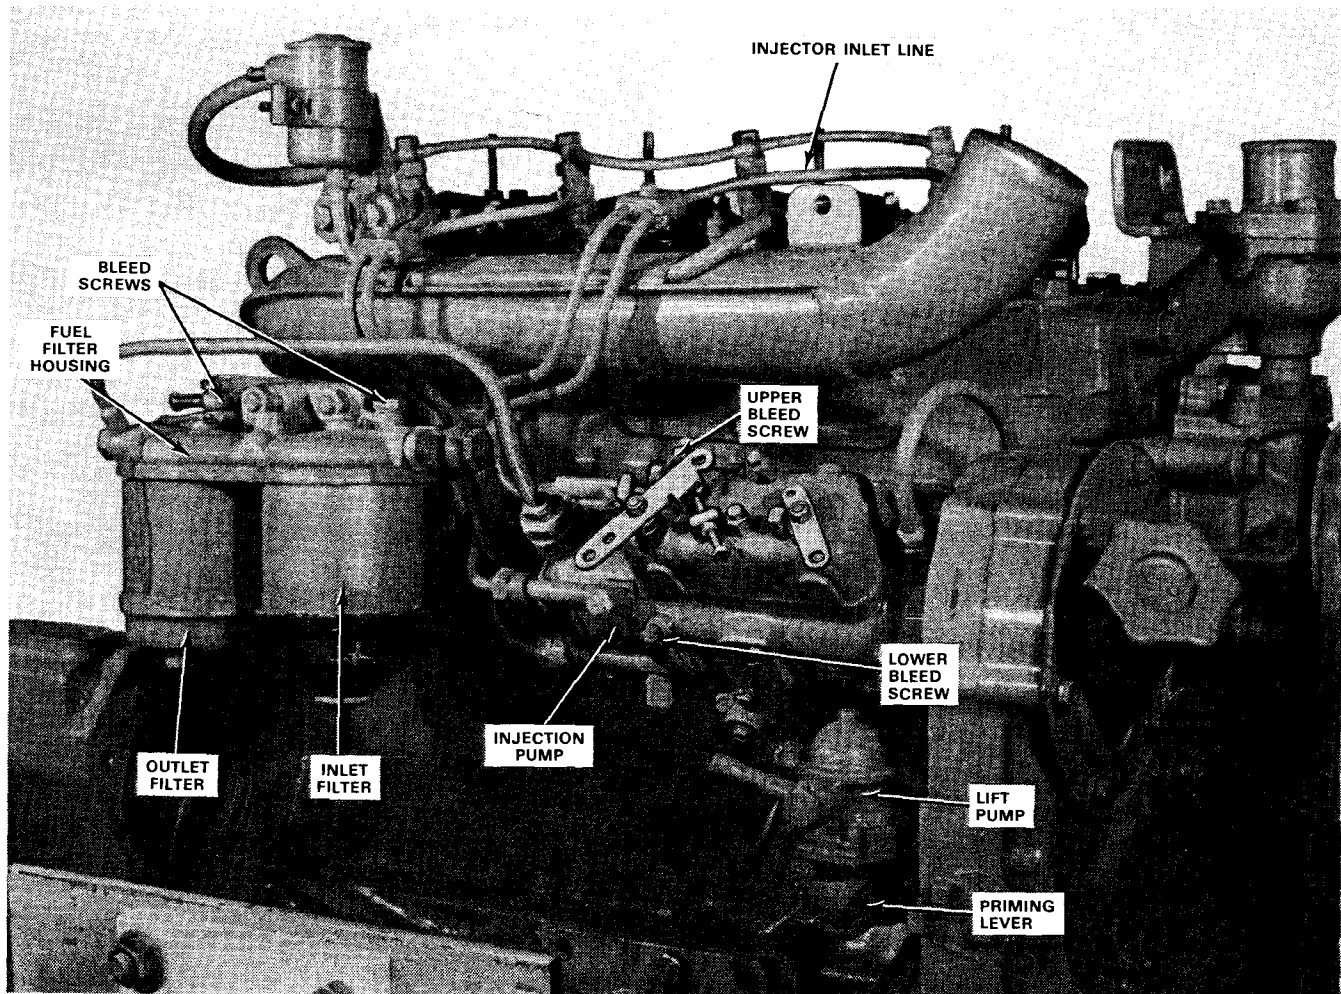

FIG. 29 SSD-327 and SSD-437 Fuel System Bleed Points
1. Loosen the air bleed screw at the top of the filter housing for the first fuel filter (inlet) two full turns (Fig. 29).